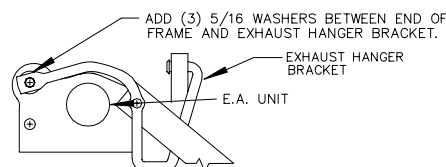

FIG. 3
NOTE: DRIVER'S SIDE EXHAUST HANGER BRACKET MUST BE REATTACHED THROUGH THE OPENING IN THE HITCH UPRIGHT BEFORE REATTACHING SHOULDER BOLT AS SHOWN IN FIG. 3.
5. USE THREE (3) 5/16 FLAT WASHERS PROVIDED TO SHIM SPACE BETWEEN EXHAUST BRACKET AND THE UPPER OUTBOARD ATTACHMENT FOR E/A UNIT ON DRIVER'S SIDE. USE EXISTING FASTENERS TO REATTACH EXHAUST HANGER BRACKET, SEE FIG. 3. DEFORMATION OF SHEET METAL FLANGES ON E/A MOUNTING SURFACES IS PERMISSIBLE WHEN FASTENERS ARE TIGHTENED.